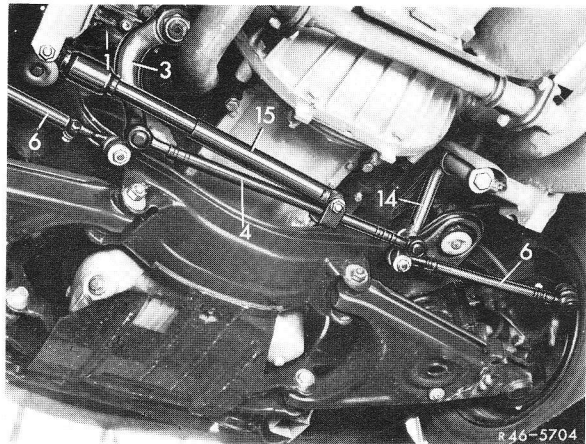

Fig. 4
7 Loosen righthand fastening nut of track rod (6), push off track rod and turn sideways with steering shock absorber (15) (Fig. 4).